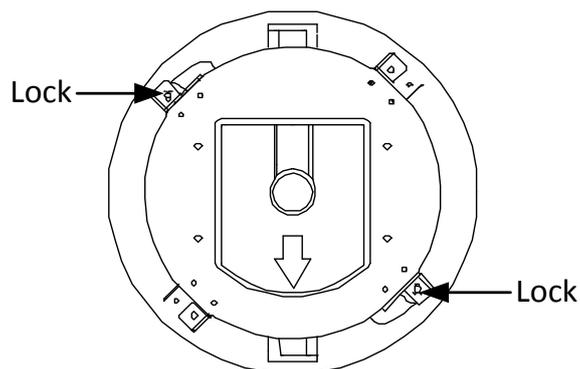

Figure 3-43 Locks and Lock Screws
- 1) Loosen the two lock screws on both sides of the back box and make the locks in internal position, as shown in the Figure 3-43.